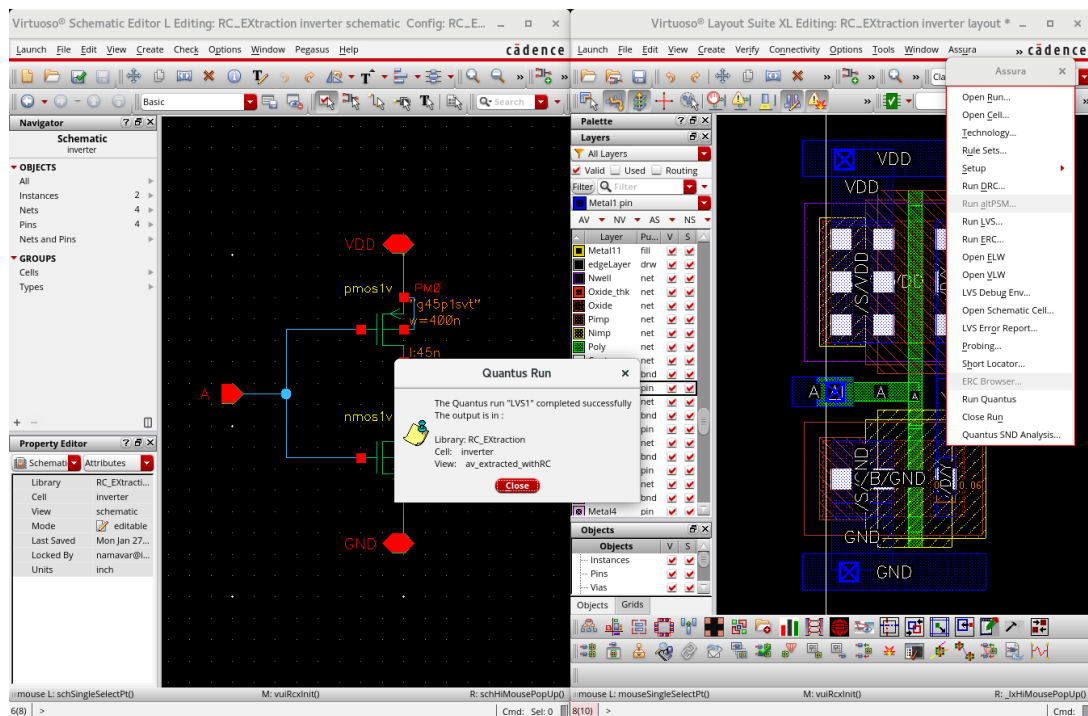

Figure 8: Confirmation of Successful Quantus Extraction for RC Parasitics.
5. Wait for the extraction process to complete. Upon completion, a confirmation message will appear, as shown in Figure 8.